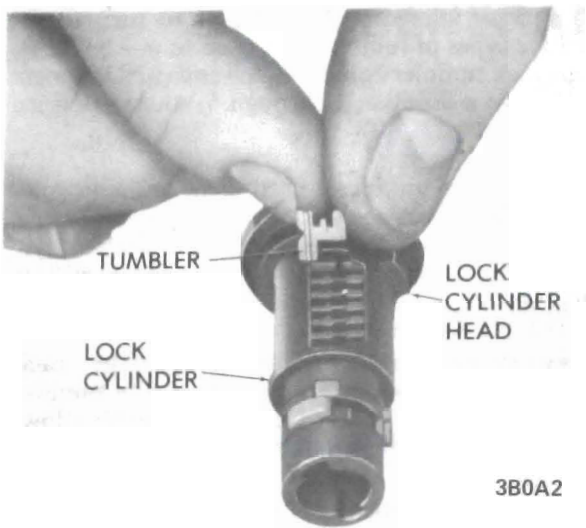

Figure OA-2 - Installing Tumblers
1. Hold cylinder with head of cylinder away and starting at the head of the cylinder, insert the tumblers in their proper slots in the order called for by the code, ribbed side toward you and long point down. See Figure OA-2.